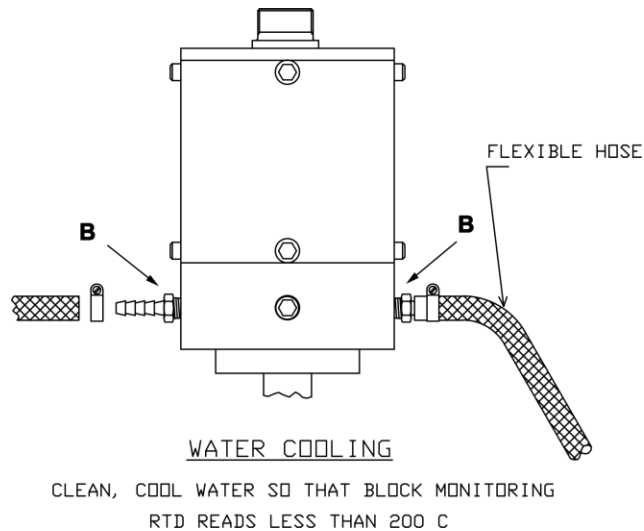

Figure 3.14: Installation of Water Cooling for the ViscoSite Transducer
- Use Teflon tape on the 1/8" NPT stainless steel fitting threads and install the stainless fittings in the positions where the shipping plugs were removed (positions marked B in Figure 3.14 below).
A typical installation is shown in Figure 3.14.